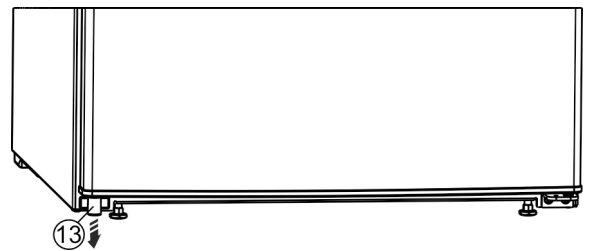

Fig. 13*
- ▶ Remove the spacer Fig. 13 (13) from under the left-hand side of the door.*